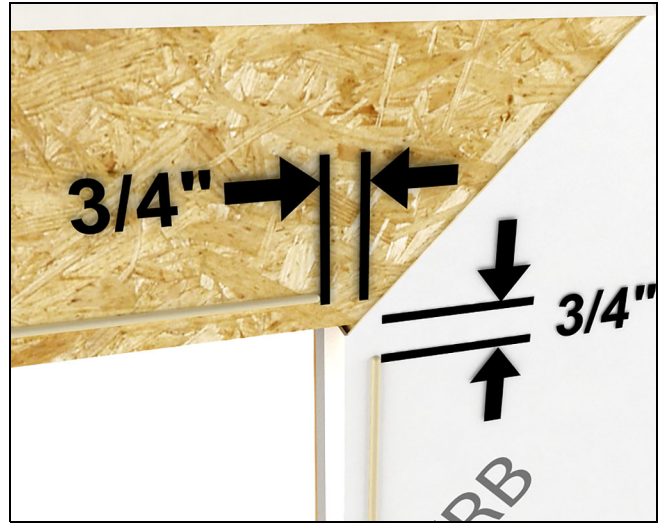

Figure 7
2. Starting in 3/4" from the side, apply 1/4" to 3/8" bead of sealant 1/2" - 3/4" across the top of the RO stopping 3/4" in from the end. Apply sealant down both sides of the window opening in the same manner. Do not apply sealant across the RO bottom. See Figure 7.